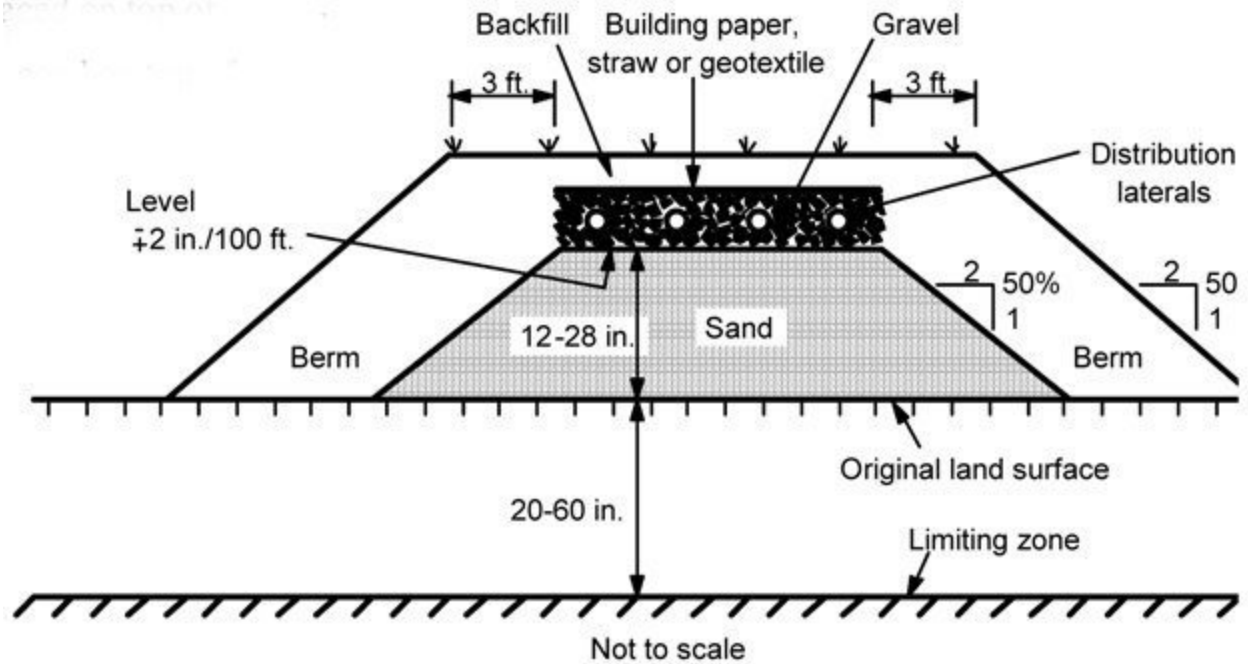
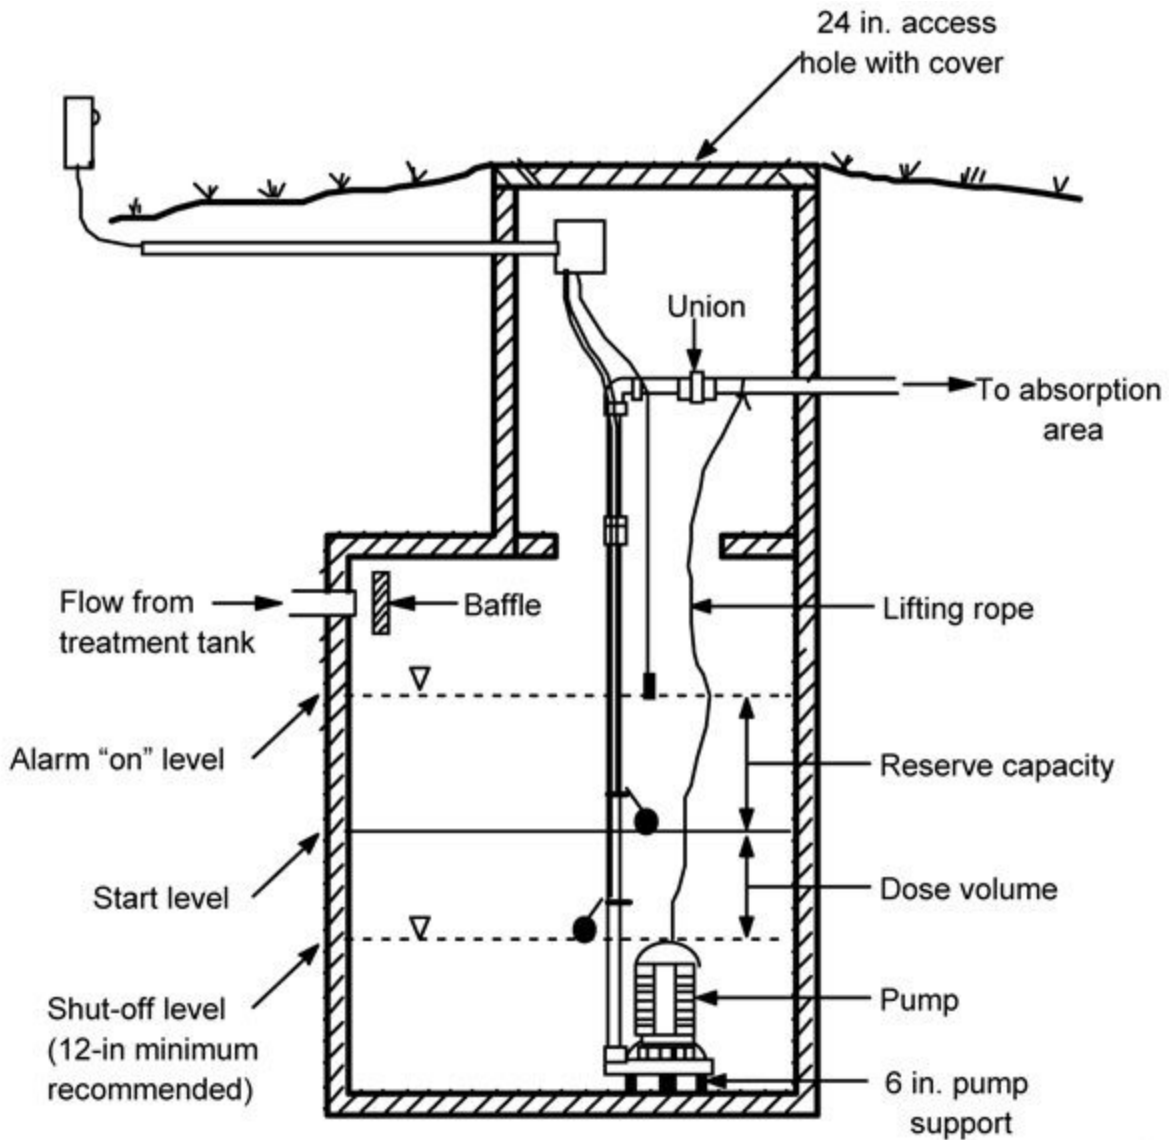

Figure 1. A cross-section of a bed mound.
Figure 2. Pump tank for a sand mound.
In a pressure dosed distribution system, the treatment tank effluent flows into a second smaller tank called a dose tank (Fig. 2), where the pump or siphon periodically distributes the effluent to the sand mound. The dose tank is an underground concrete or fiberglass chamber placed between the treatment tank and the effluent delivery line. It receives effluent from the treatment tank. When a prescribed volume of effluent has accumulated in the dose tank, the effluent is transferred to the sand mound. This process, called pressure dosing, uniformly distributes the effluent over the surface of the sand mound through the laterals, Figure 1. Most systems transfer effluent several times per day depending on the wastewater volume from the home. These periodic applications of effluent to the sand mound allow the mound to rest between applications of effluent. The mound can drain drawing air in, resulting in aerobic treatment of the wastewater.
Figure 2 illustrates a typical dose tank and pump. The dose tank must be a watertight, non-corrosive chamber. The dose tank must have a liquid capacity at least two times the dose volume. The minimum dose volume must be the larger of 100 gallons or five times the internal capacity of the delivery pipe, manifold, and laterals. The dose volume may not exceed the system's design daily flow volume. The pump must be manufactured for use in a wastewater environment so the wastewater does not corrode and damage the pump. A sealed manhole extension, rising to the land surface, should cover the tank's access manhole. This is to prevent access to the dose tank. It should also be placed and graded to divert all surface runoff water away from the dose tank. Finally, locate all electrical start and stop controls in the manhole extension above the dose tank. Install an alarm system that will both emit a sound and light up in case the effluent depth in the dose tank exceeds the alarm level. Standard alarm units are commercially available.
First, cover the absorption area with enough approved sand mound sand to bring the vertical distance between the leveled top of the sand and the limiting zone to 48 inches. At least 12 inches of sand must be used. The depth of the sand layer is dependent on the site's depth to the limiting zone. For example, if the depth to the limiting zone is 20 inches, the depth of sand at the upslope edge of the absorption area must be 28 inches; the depth of soil plus this minimum depth of sand equals 48 inches. If the depth to the limiting zone is 36 inches (or more), the minimum depth of sand must be 12 inches; the depth of soil plus the depth of sand will equal at least 48 inches (more for those sites with a limiting zone between 36 and 60 inches). There must always be at least 48 inches of sand and soil above the limiting zone. It is important that the top of the sand layer be level. This helps ensure uniform flow of effluent through the sand and soil below the mound. The sides of the sand mound must be graded at a 2(H):1(V) slope. This is 2 feet horizontal for each foot of vertical drop as shown in Figure 1. Usually, the sand is a costly purchase because it must be tested and approved by the state. The sand supplier should provide a sand "spec" sheet showing that each load has been approved.
Next, the outer berm of the sand mound should be constructed with topsoil. This berm will hold the sand and aggregate in place, see Figure 1. Next, cover the level sand surface with aggregate (PennDOT 2B and #57 gravel meets the aggregate guidelines). Some installers place 6 inches of aggregate, place the distribution manifold and laterals and then add sufficient aggregate to provide 2 inches of cover over the piping system. One and a half- or two-inch diameter PVC manifolds and laterals are common. The absorption area laterals may be spaced up to 6 feet apart and each lateral must have a series of holes spaced 6 feet apart and facing downward. The effluent must be pumped from the dose tank to a manifold that splits the long dimension of the seepage bed or the trenches. Laterals must be teed to both sides of the manifold. The first discharge hole in each lateral must be at least 3 feet from the manifold. The minimum hole-size shall be $\frac{1}{4}$ inch when a dose pump is used and $\frac{5}{16}$ inch when a siphon is used. The laterals end in cleanouts, which are used for inspection and cleaning the laterals. They can (and should) be flush with the final turf surface to prevent damage by animals or equipment. The sand mound absorption system can be built as either a seepage bed or a network of trenches, but seepage beds require much less total land area. After the aggregate and distribution pipes have been placed, cover the aggregate with a separation layer of untreated building paper, 2 inches of straw, or a geotextile to prevent backfill soil from settling downward into and clogging the aggregate. Finally, complete the berm and cover the separation layer with 12 inches of backfill soil. The berm around the